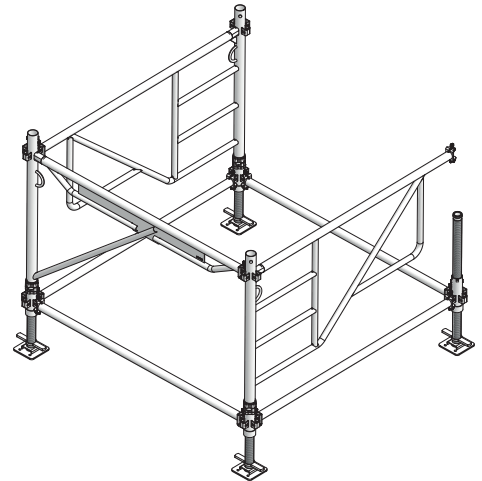

Fig. 9.1
8. Attach the frames 100 MT to the other spindles the way you attached the access frame in Step 7 (Fig. 9.1).